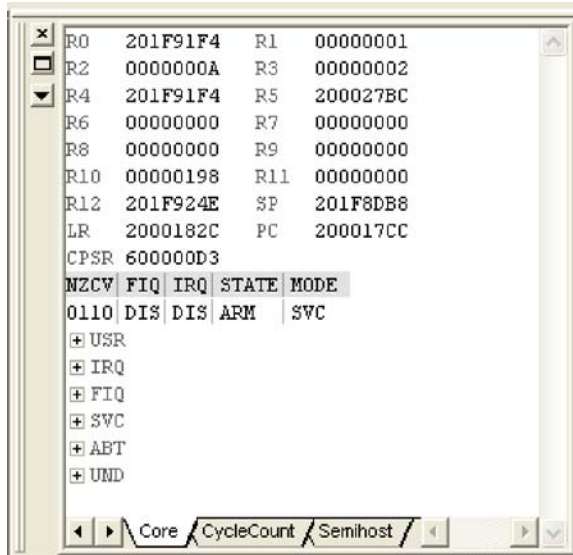

Figure 5-66. RealView Debugger Register Window
10. Select **Registers** from the **View** menu. The Register window is displayed; you may choose to “dock” it into the RealView Debugger, as shown in Figure 5-66.